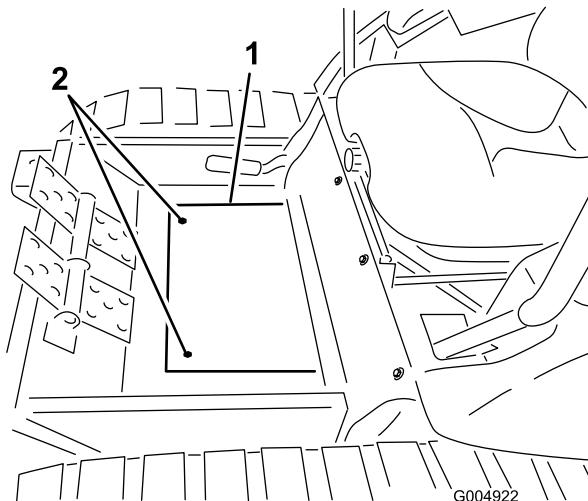
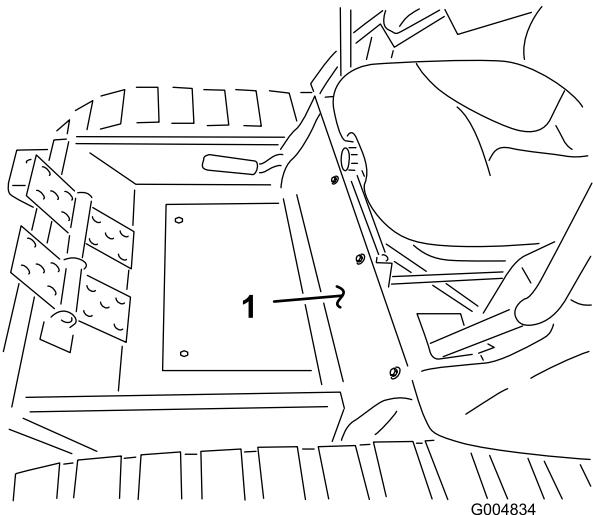

Figure 62
Figure 63
5. Install the floor plate cover (Figure 62) and the front cover (Figure 63).